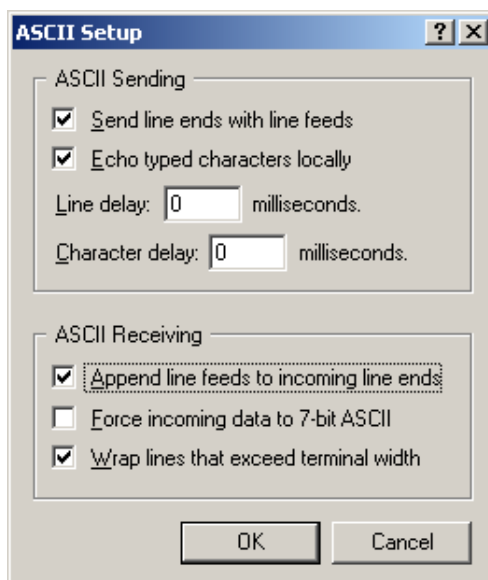

Figure 3-4. Additional Terminal Program Settings
2. In the PC terminal program, set the properties in the optional settings as shown in Figure 3-4.